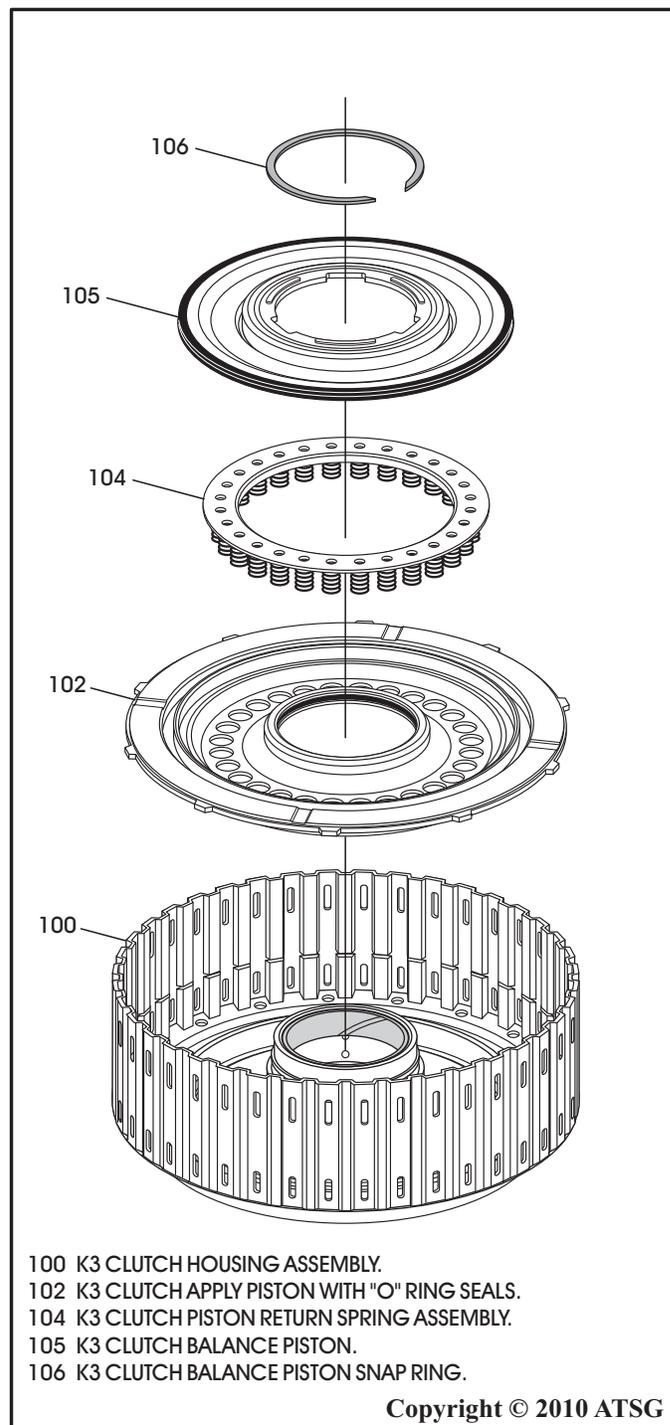

Figure 108
5. Lubricate both seals with a small amount of Trans-Jel® and install K3 clutch apply piston into K3 housing, as shown in Figure 108.
6. Install the return spring assembly into the K3 clutch housing, as shown in Figure 108.
Note: Ensure springs are seated in cavities of the piston (See Figure 108).
7. Lube the balance piston seal with small amount of Trans-Jel® and install the balance piston, as shown in Figure 108.
8. Compress the balance piston and install the snap ring, as shown in Figure 108.